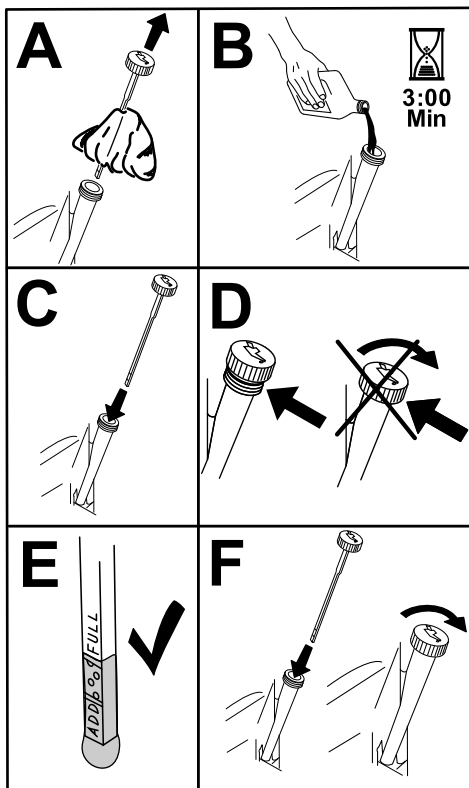

Figure 47
6. Slowly pour approximately 80% of the specified oil into the filler tube and slowly add the additional oil to bring it to the Full mark (Figure 47).